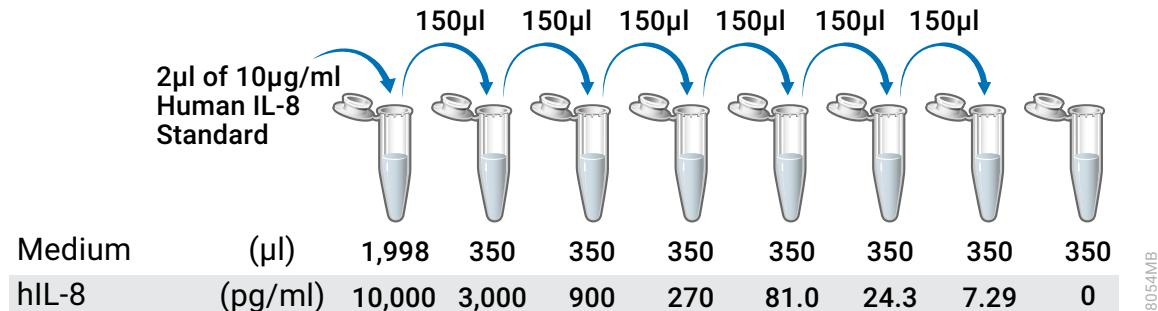

Figure 3. Human IL-8 dilution series.
3. Prepare an initial concentration of 10,000pg/ml human IL-8 by diluting Human IL-8 Standard (10µg/ml) 1:1,000 in prewarmed cell culture medium. For example, prepare 2,000µl of 10,000pg/ml human IL-8 by adding 2µl of the Human IL-8 Standard stock to 1,998µl of culture medium (see Figure 3).
3. Prepare an initial concentration of 10,000pg/ml human IL-8 by diluting the Human IL-8 Standard (10 μ g/ml) 1:1,000 in prewarmed cell culture medium. For example, prepare 2,000 μ l of 10,000pg/ml human IL-8 by adding 2 μ l of the Human IL-8 Standard stock to 1,998 μ l of culture medium (Figure 3).